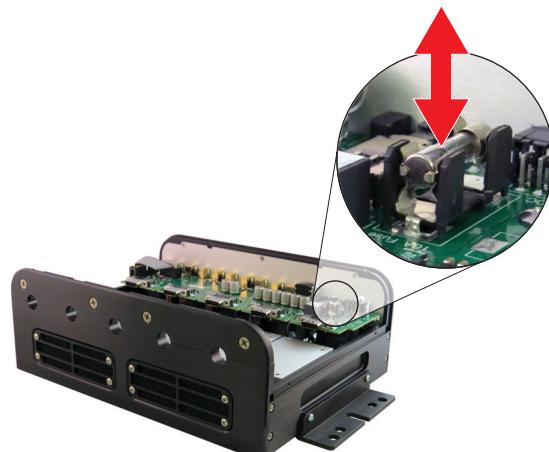

Figure 4-25. OBIS Laser Box: Fuse Location
- Remove the old fuse and install the new fuse, as shown in Figure 4-25.